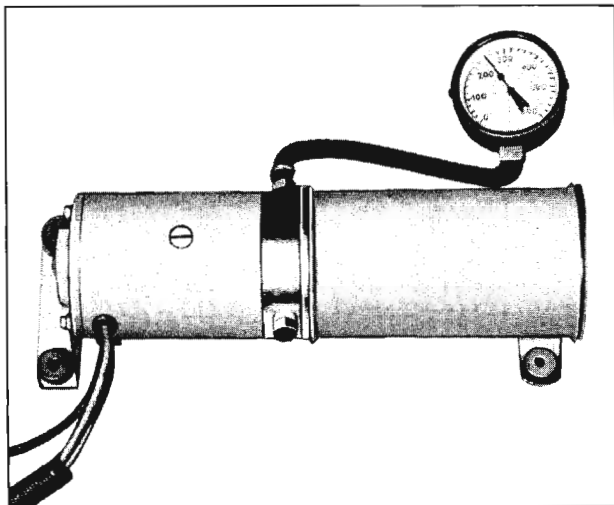

Fig. 16-149 Checking Pump Pressure
2. Install plug in one port, and pressure gauge in port to be checked. (Fig. 16-149)